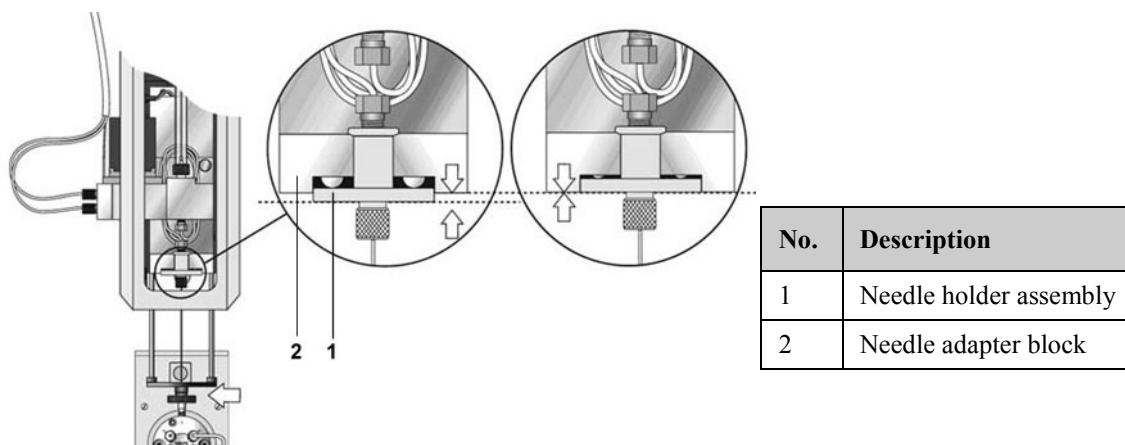

Fig. 44: Setting the needle penetration depth for the needle guide fitting (injection valve)
11. Rotate the outer knob stepwise in the opposite direction until the bottom edge of the holder assembly is flush with the lower end of the needle adapter block, as shown in Fig. 44.